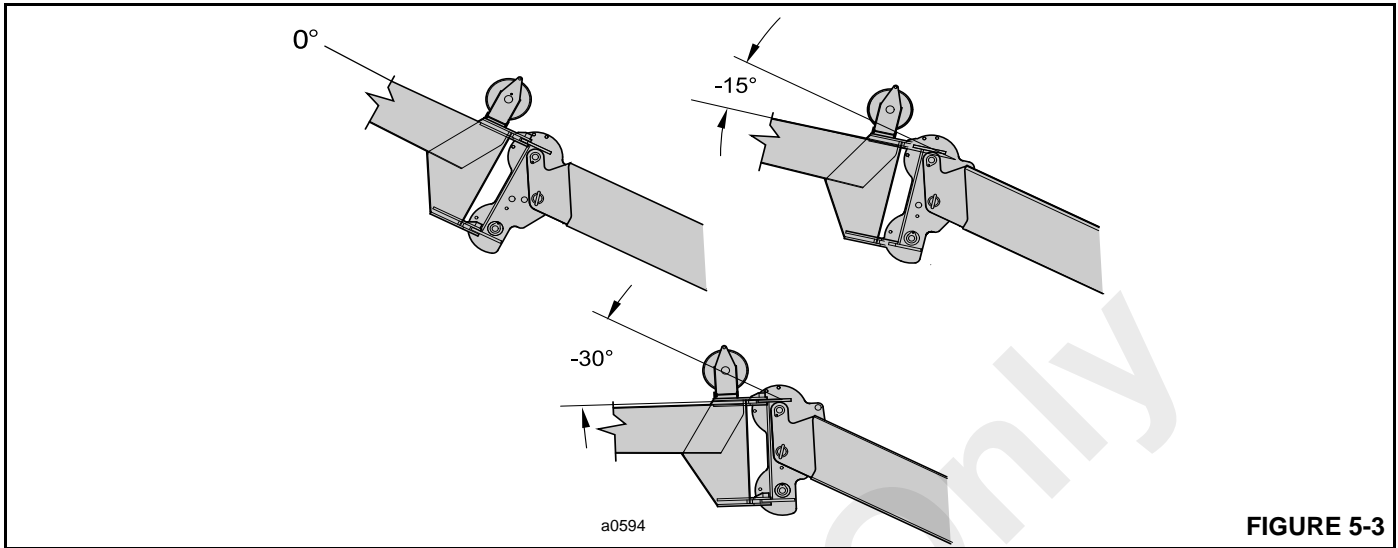

FIGURE 5-3
The minus 15° and minus 30° boom head angles are used to offset the boom extension. See Figure 5-3.
The boom extension offset is adjusted by moving the boom head to a minus 15° or 30° (Figure 5-3). With the extension attached it is necessary to raise or lower both the extension and the boom head simultaneously.
5. Raise or lower the main boom until the desired offset angle is achieved. (Figure 5-3).
The boom extension can be positioned to any one of three angles Figure 5-3. For adjustment procedures, see *Adjusting the Optional Boom Extension Offset*, page 5-3.